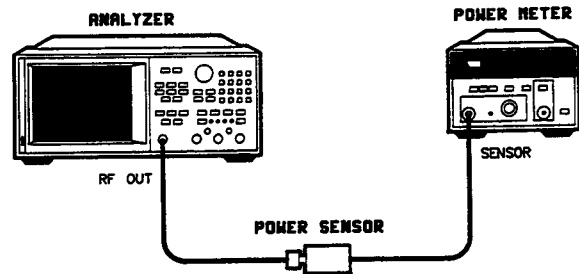

Figure 2. Flatness and Power Level Accuracy Test Setup
1. Connect the equipment as shown in Figure 2. Allow 30 minutes warm-up.